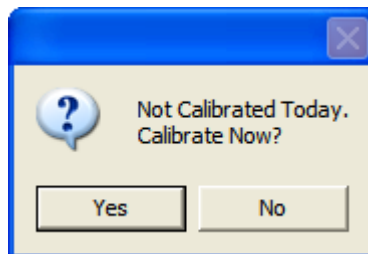
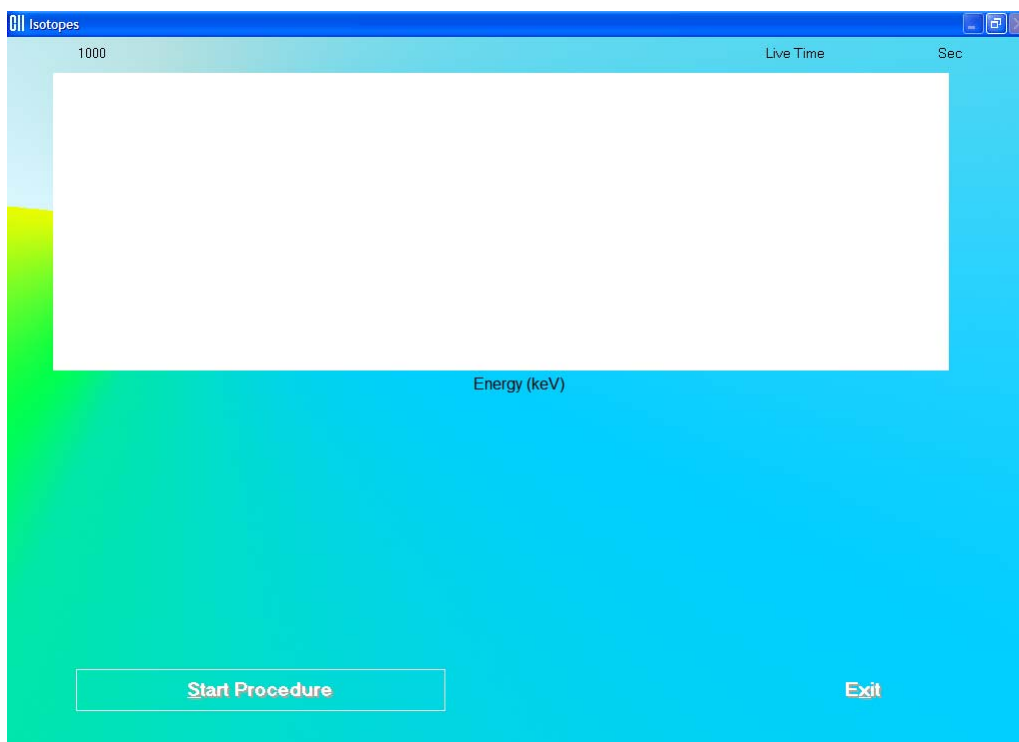

Figure 6-7
Figure 6-8
- Click the **Next** button or press *Alt+N*. The screen appears as shown in Figure 6-8.
Note: If calibration has not been performed for the current day, you will be prompted with the screen as shown in Figure 6-7. If calibration is performed now, the program will return to Figure 6-8 after calibration is complete.
Click the  button or press the *Y* key to end the procedure. The screen appears as shown in Figure 6-8. Click the  button to start again or click the  button to quit.